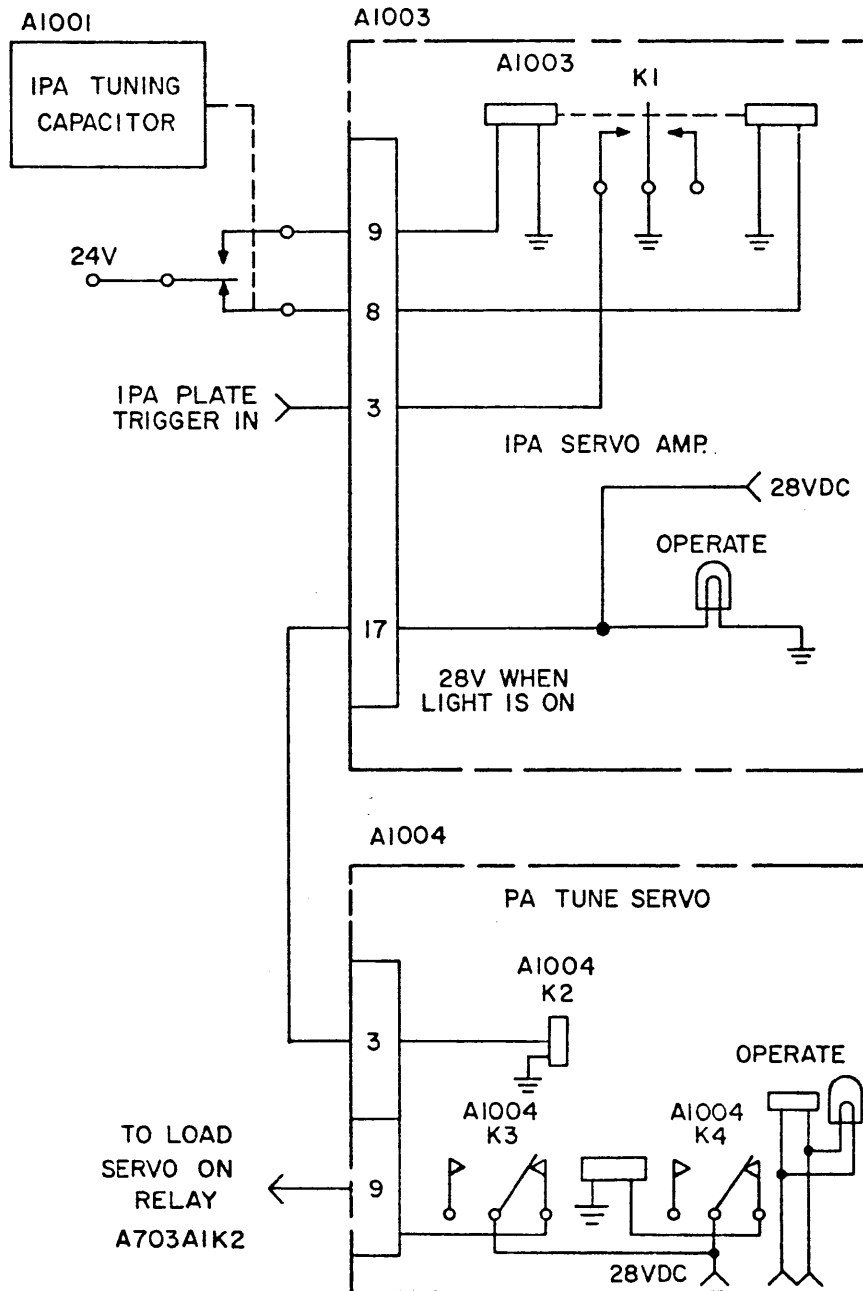

Figure 4-5. IPA Plate Trigger Shorting and Input to PA Tune Servo
e. IPA OPERATE. (See figures 4-5 and 7-2) As resonance is approached, a sample of the r-f voltage at the plate of the IPA tube V1401 is rectified to a positive d-c voltage by the IPA sense assembly diode A1008CR3 and fed to the driver r-f trigger potentiometer A1007R12. The potentiometer is adjusted to provide approximately 0.5 vdc to pin 3 of the IPA servo amplifier A1003, which stops the amplifier from searching and places it into the servo mode.